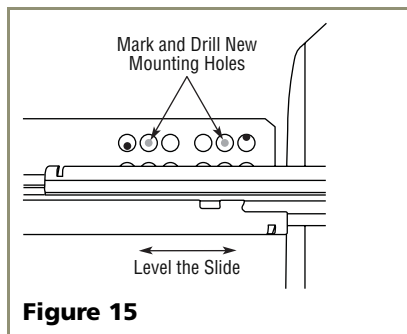

Figure 15
4. Mark new front drilling holes using a different set of mounting holes on the slide (see **Figure 15**).